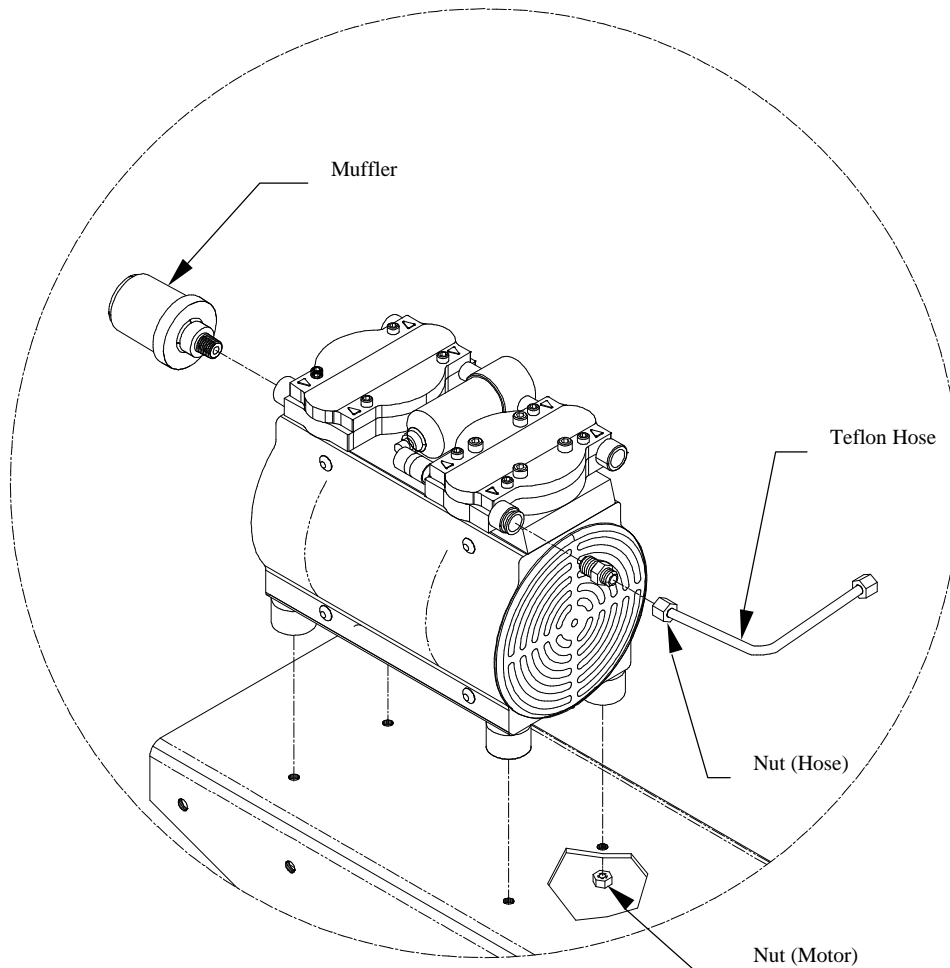

Figure 6
2. Remove the nut that holds the Teflon hose to the motor (figure 6).